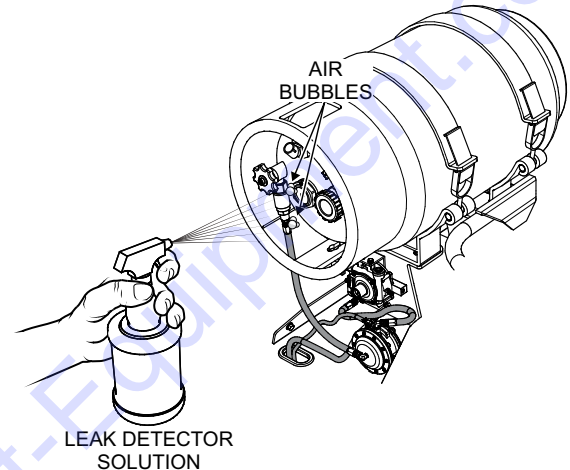

Figure 38. Leak Detection
1. Apply an approved leak detector (Figure 38) solution, obtained from a trained and qualified propane distributor, or a thick non-ammonia soapy water solution (1:1 mixture of 1 part non-ammonia soap and 1 part of water).